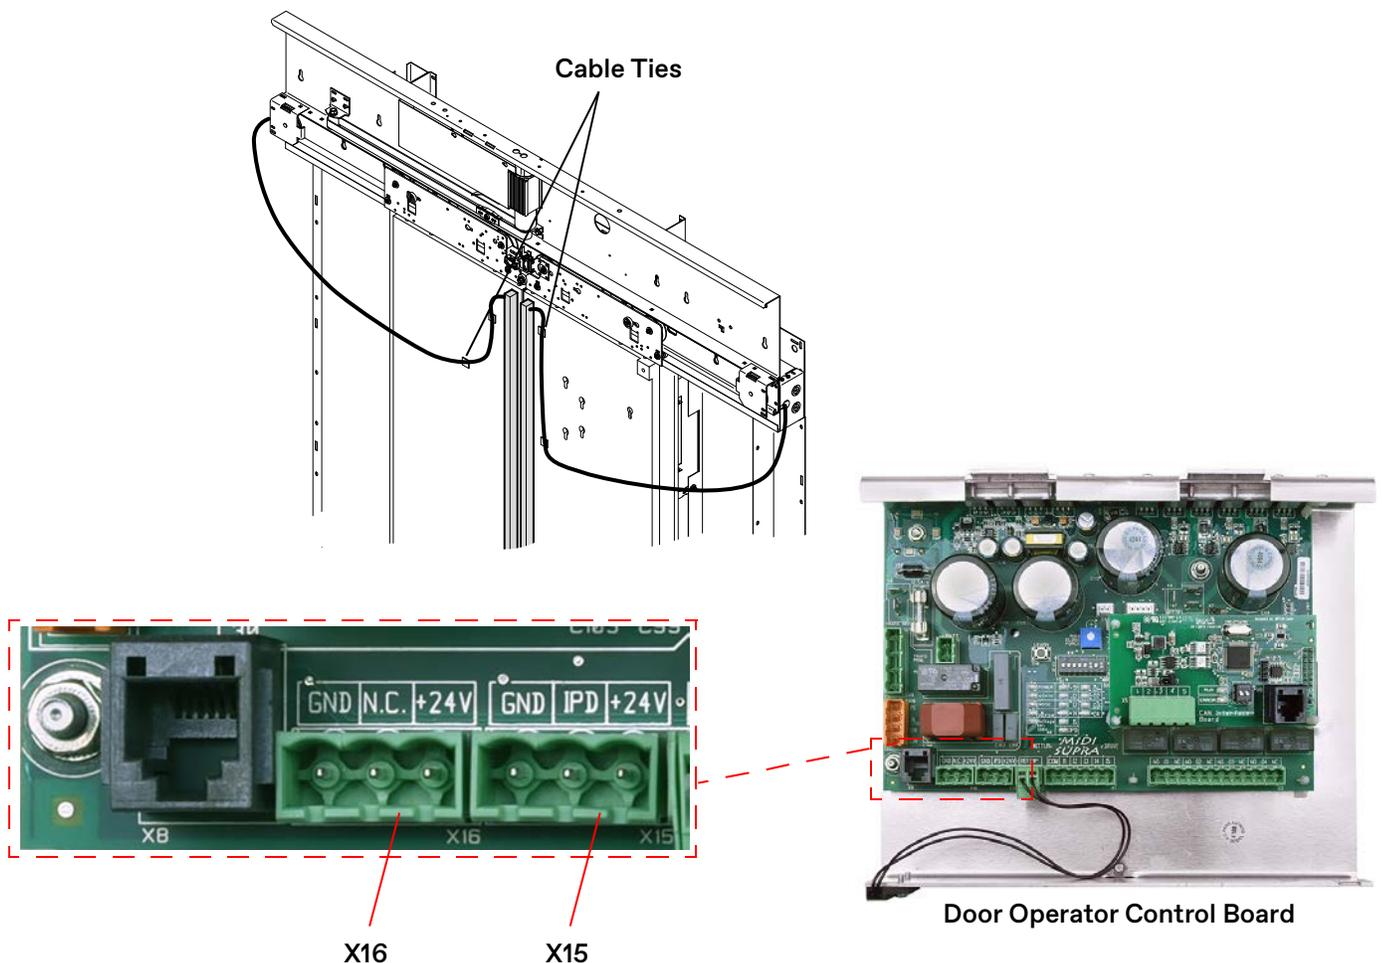

Figure 25 - Install Electronic Edge
2. Route cables—avoid tight bends and sharp edges—from the light curtain to the ends of the door track, and secure with cable ties. See Figure 25.